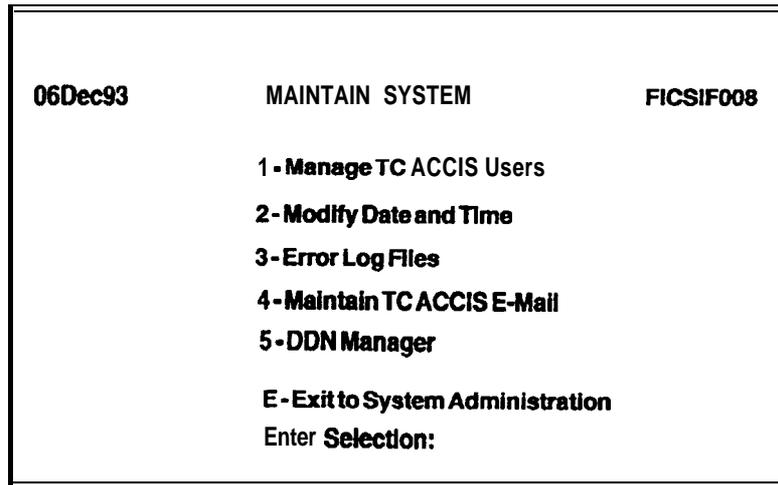

Figure 7-2. Maintain System Menu
3. At the TC ACCIS System Administration Menu, select **Maintain System**. The **Maintain System** menu is displayed (see Figure 7-2).